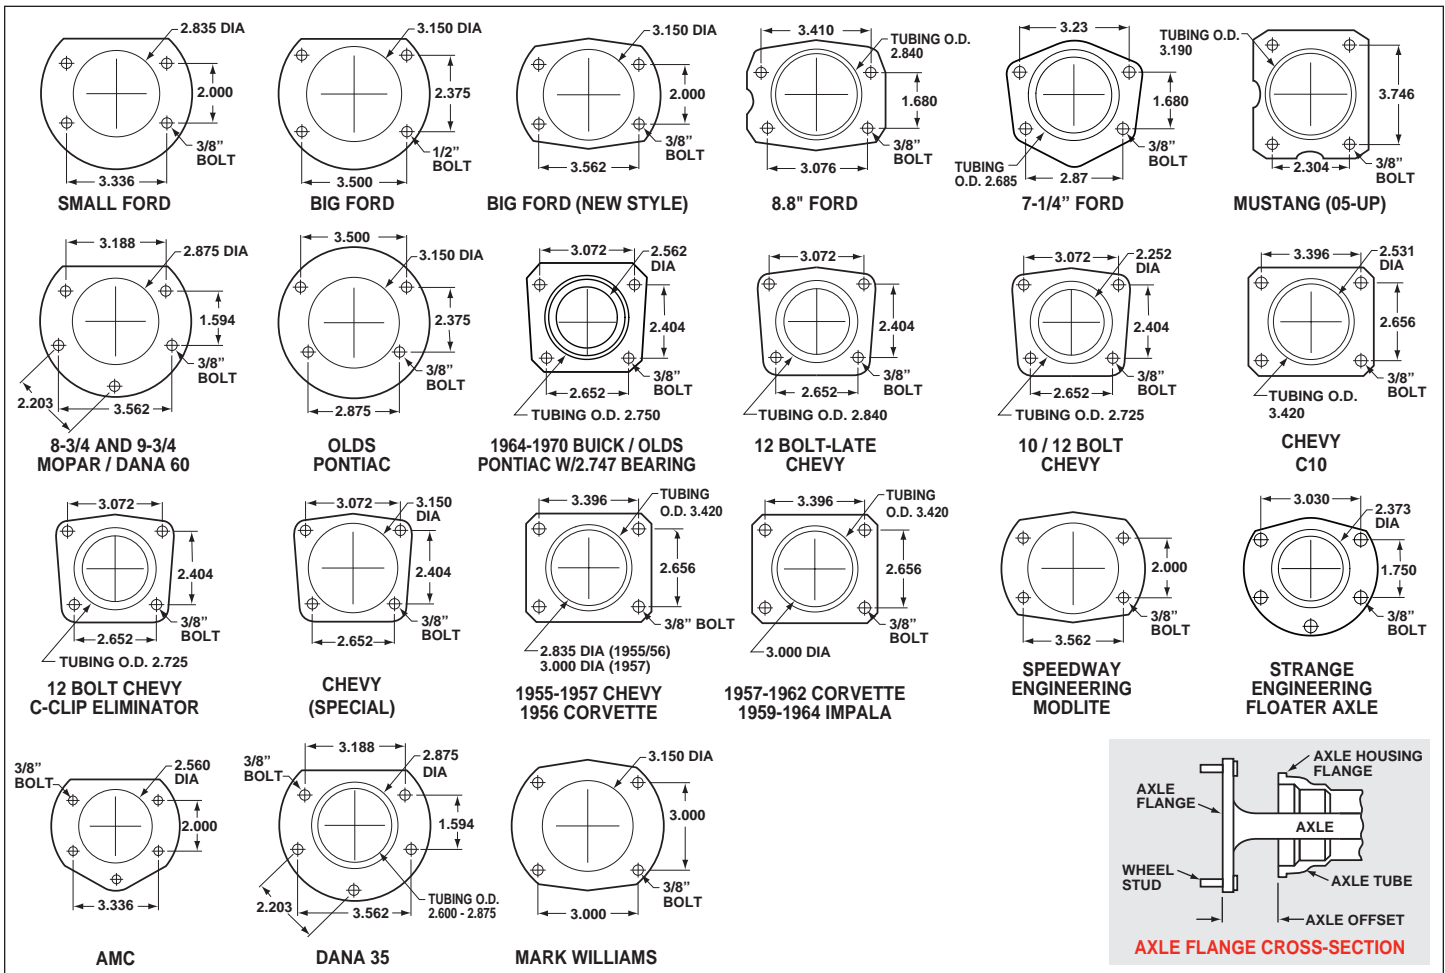

Figure 8. Rear Housing Flange Chart and Axle Flange / Offset Cross-Section
- Make sure this is the correct kit to fit the axle housing flange, not necessarily the rear end make. Many times after market manufacturers put a different make of axle housing flange on the stock rear end housing (see Figure 8). Example; Big Ford rear ends with Olds-Pontiac flanges, therefore, an Olds-Pontiac rear disc brake kit would be the correct kit to order.
- Dimension from wheel side of axle flange to wheel side of axle housing flange (see Figure 8, lower right hand corner). This dimension is critical to ensure proper alignment of the rotor to the caliper, and should match offset given in the kit description.